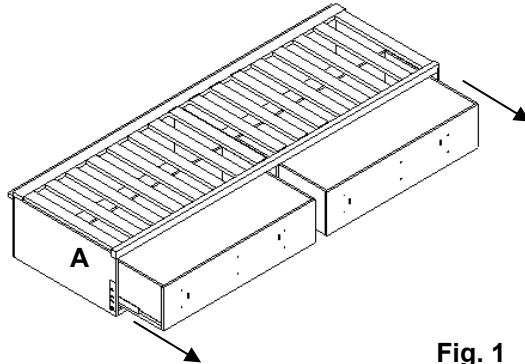

Fig. 1
1. In order to assemble the bed to a headboard and a footboard, you will need to remove the drawers from the Storage Side Frame (A). Pull the drawers out until they stop. See **Fig. 1**.